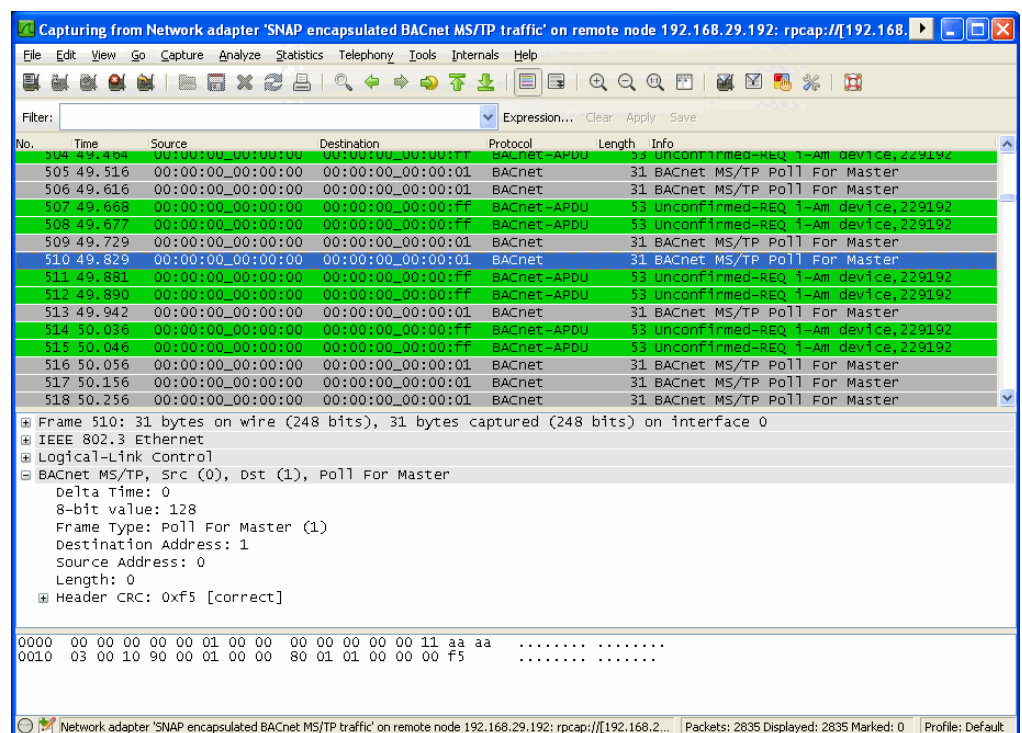

Figure 308: Example MS/TP remote capture in progress.
- Wireshark will attempt to establish a connection to the device and, if successful, start displaying packets. An example capture is shown in Figure 308.